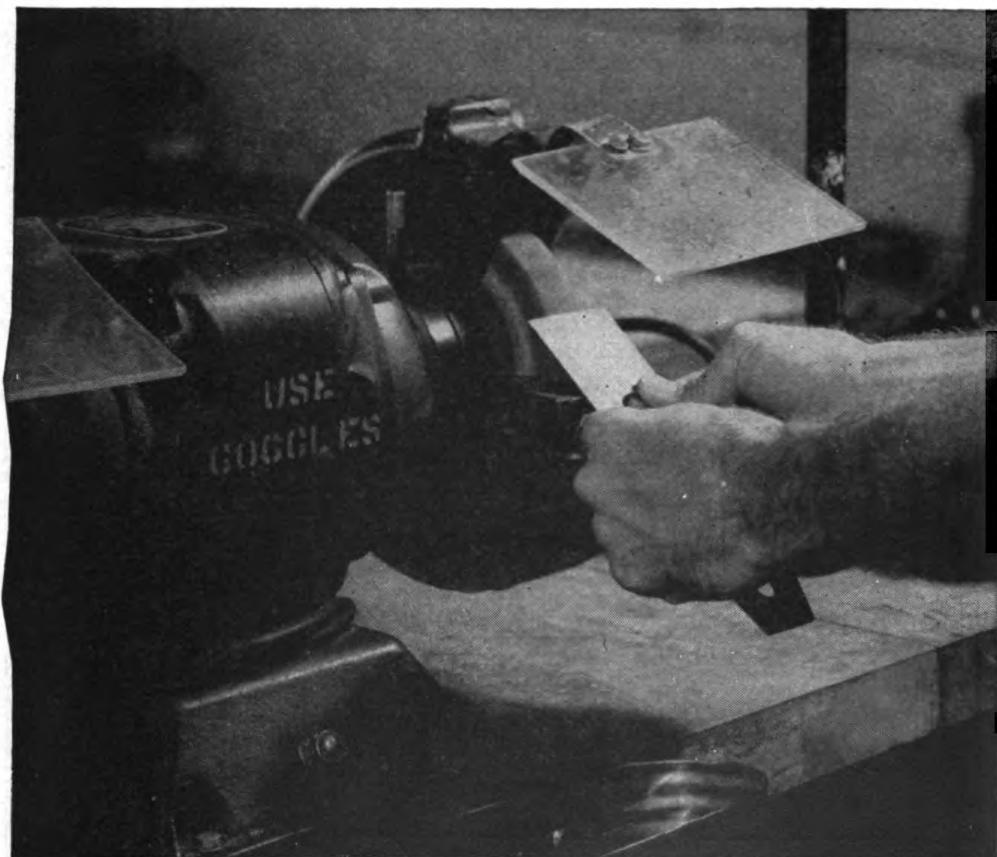

Figure 101. Grinding a plane blade.
(4) After a plane blade has been sharpened several times it should be ground. It does not have to be ground, but grinding will remove some of the metal on the beveled edge and make sharpening easier. To grind the plane blade, it is held against a fine grinding wheel as shown in figure 101. It should be held at such an angle that the width of the bevel